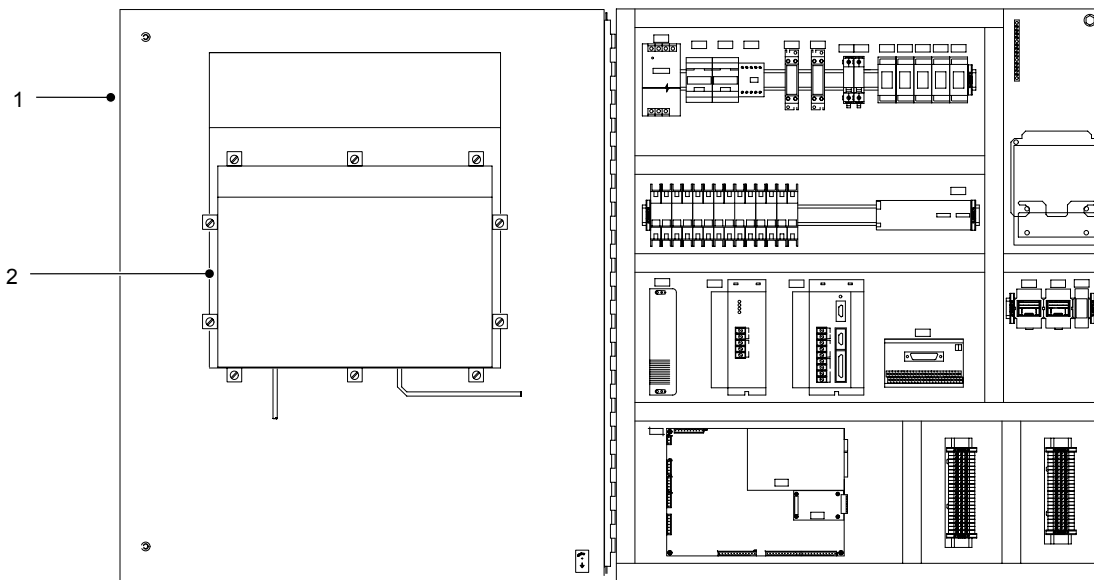

Figure 9 Accessing the Operator Interface
1. See Figure 9. Open the enclosure door (1).
2. Connect a mouse and USB-type keyboard to the VersaView PC (2).
11. Click on **Open File** (9) and select the desired *s19* file. Click on **Update PCI** (8).
12. The time and file loading progress appears in the Elapsed Time (4) and the File Progress (5) fields.
13. When the process is done, click on **EXIT** (6) to exit Windows Explorer.
14. Disconnect the keyboard and mouse from the VersaView PC (2).
15. See Figure 9. Close the enclosure door and cycle power to the PCI controller.
2. Maximize the **SerialCom** window (1).
3. See Screen 22. Touch either Unit 1 or Unit 2 in the **Config File Transfer** field (3) to save data from the applicable controller board.
4. Touch **Save Config File** (4). Using the keyboard, enter the name of the file to save in the file-name field. Touch **Save** (2).
5. When **OK-File Saved** appears in the field (5), minimize the **SerialCom** window (1).
7. See Figure 9. Close the enclosure door (1).
3. See Screen 23. Touch either Unit 1 or Unit 2 in the **Config File Transfer** field (3) to load data to the applicable controller board.
4. Touch **Load Config File** (4).
6. Wait for the PCI controller to update. When **Transfer Complete** appears in the field (5), minimize the **SerialCom** window (1).
8. See Figure 9. Close the enclosure door (1).